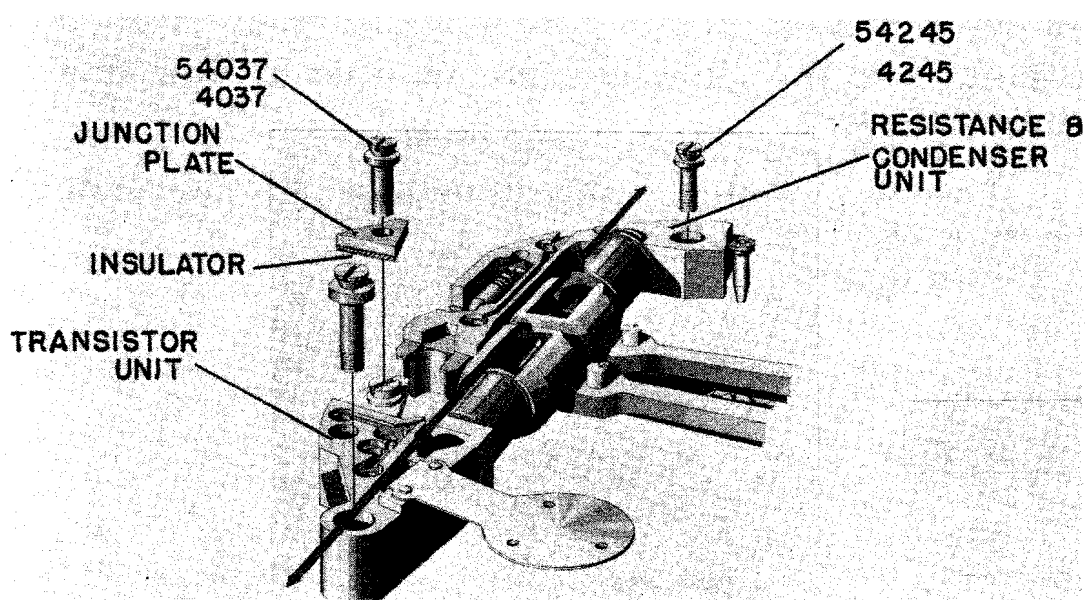
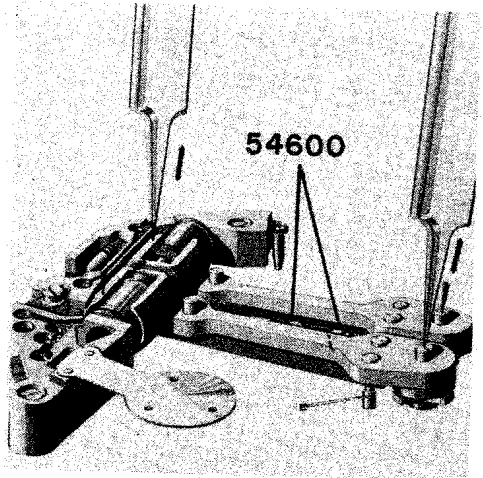
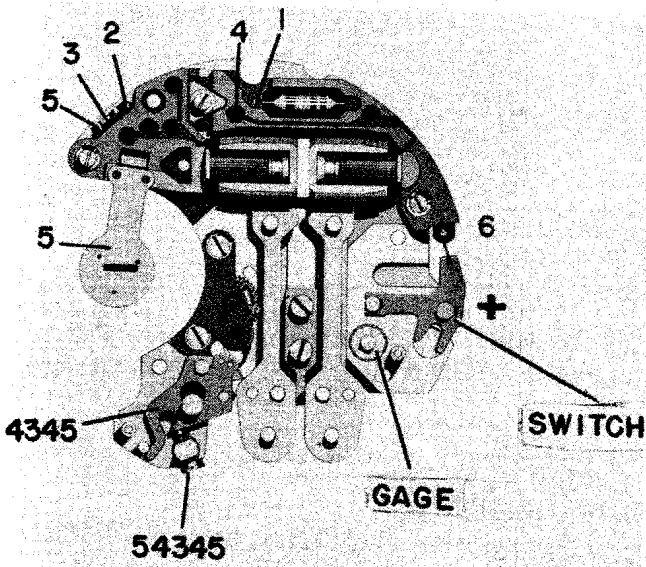

FIGURE 13
FIGURE 16
FIGURE 17
After removing the screws (54037, 54245), remove the junction plate and its insulator underneath, as shown in Figure 13.
Now fit the junction plate insulator and the triangular junction plate in place by means of its screw (54037). (See Figure 13.) Check the resonator to make sure it is free, as shown in Figure 16. To do so, place the non-magnetic tweezer lightly on the cups of the resonator and "feel" whether they are free. Or place the point of a tweezer on the pin of the lower end of the fork-resonator as shown. Also, with the point of tweezer at the side of the pin at the lower end of the resonator, flip the point of the tweezer aside. This will set the resonator into sonic action and will enable you to observe its freedom. On no account must its tines come into contact with any part of this movement. Also be sure that the contact point (6) in Figure 17 is not fouled with the contact table of the switch.
Notice that in Figure 17, there is a reference to a "gage". This is a stud-shaped piece that is supplied with every movement and rests in a reserve well or counterbore. This gage has no functional purpose in this watch except as a stand-in for the click wheel for
Remove the battery from the movement. To read the power consumption in microamperes ( $\mu A$ ), connect the set-up so the ammeter's negative (-) lead (set to read microamps) is connected to the negative (-) lead of the energy source (1.35 volts). The ammeter's positive (+) lead should be connected to *Point 5*, shown in Figure 17. Then, connect the lead from the positive (+) terminal of the energy source to the movement plate — *Point 6* in Figure 17.
### **3. Resistance Check Between Points 1 and 4 in Figure 17.**
With the multimeter switched to read in the  $20\text{K}\Omega$  per volt range, contact the meter's black (-) lead to *Point 1*, Figure 17, and the red (+) lead to *Point 4*, Figure 17. If the meter's needle remains stationary at  $\infty$ , the insulation is good. If the needle moves even slightly, there is a partial or total short circuit between these points, and this unit must be changed.
With the stem pulled out all the way, the contact between *Point 6*, Figure 17, and the break switch (movement plate) should be open. To test it, touch the red (+) lead of the meter (ohms) to the plate, and touch the black (-) lead to *Point 5*. If all is well, the needle should remain at  $\infty$ .
Place one lead of the ohmmeter at *Point 6*, Figure 17, and the other lead on the movement plate with the stem pushed in all the way. The needle should jump to the end of the scale if the contacts are good. If not, clean or adjust the contact blades of the breakswitch.
With the meter reading  $20\text{K}\Omega$  or more per volt, place one prod of the meter at *Point 4*, Figure 17, and the other at *Point 6*. The result should be a reading of approximately  $7\text{K}\Omega$ . If it is below  $5\text{K}\Omega$ , or more than  $10\text{K}\Omega$ , the Resistance and Condenser Unit 4245 should be changed.
Remove the battery. With the meter set to read microamperes, place the red (+) prod at *Point 6* and the black (-) prod at *Point 5*, Figure 17. Then, hold the tweezer or your fingernail at the pin on the lower end of the right resonator tine. Flip this to set the resonator vibrating. The meter's needle should move up to a reading of approximately 0.5 on the 0 to  $20 \mu\text{A}$  scale. Excessive movement, or none at all, indicates a need to change the transistor unit 4240.
Another method is to place the power source (+) prods at *Point 6*, Figure 17 (the plate), and the (-) prod at *Point 5*. The movement should start to resonate and the click wheel and intermediate wheel should begin to turn.
2. When the hands are in order, check the battery (1). If it is acceptable, check (2).
3. If the reading is less than  $4 \mu A$  in check (2), remove the module, check contacts, switch and junction plate and its insulator 4037 in Figure 17. Replace the faulty parts.
- If checks (1) and (2) are good, examine the click pawl jewels under magnification. There may be a jewel missing from one of the click pawls. Replace the faulty parts.